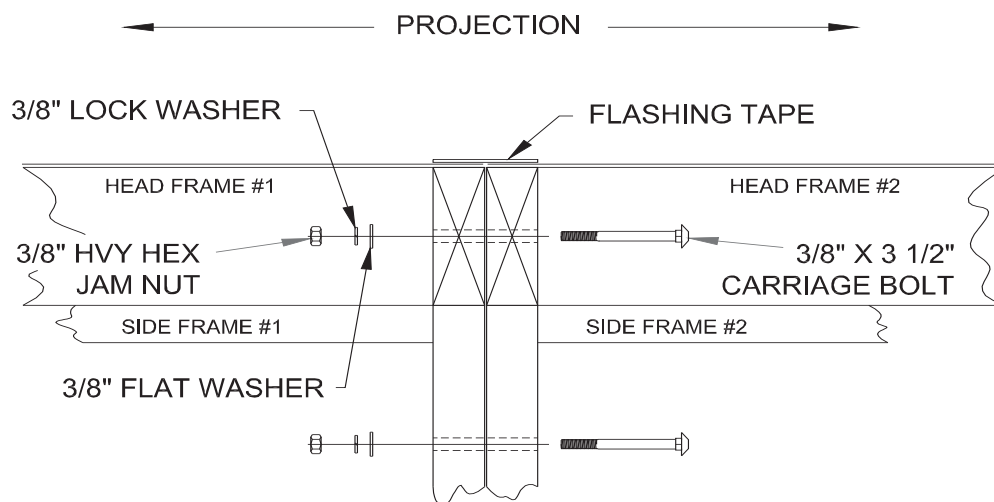

FIGURE 9
Multiple projection head frames install on top of the side frames the same as the single projection head frame except that they must be bolted to each other in at least (3) places per frame with the carriage bolts, washers and hex nuts provided. ((4) places on framing over 14'-0"). The factory supplied "flashing tape" must also be applied all along the joint where one header section is bolted to the other. Sheathing must be clean & dry before applying "flashing tape". Trim to length as needed and push down firmly all along joint. See Figure 9.